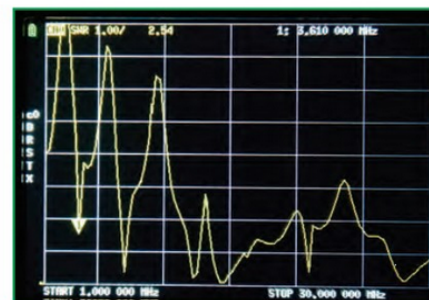
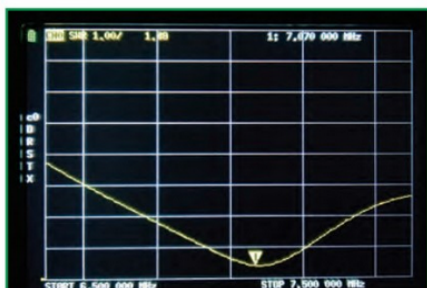

FIGURE 4: SWR response of a part-stripped HF9V antenna.
FIGURE 5: Close-in view of my HF9V on the 7MHz band.
At the time of writing, I was renovating my Butternut HF9V antenna and had removed the 6m and 15m stubs. This was a good opportunity to use the NanoVNA-H4 to examine the antenna. I've shown the resulting SWR plot in Figure 4. This shows the expected response with resonances at 7MHz, 14MHz and 28MHz. However, with such sharp resonances and a relatively small number of measurement points (101), it's easy to miss the detail, so a closer look was required. I began with a sweep between 6.5MHz and 7.5MHz. This revealed a softer curve, with the best SWR of 1.35:1 at 7.07MHz – ideal for data modes operation, Figure 5. When making these measurements, the facility to add markers to the display was particularly helpful. I could drag the markers with the stylus and read the marker value from the information box at the top of the screen. Using these markers, I was able to quickly check the SWR for all the frequencies of interest.